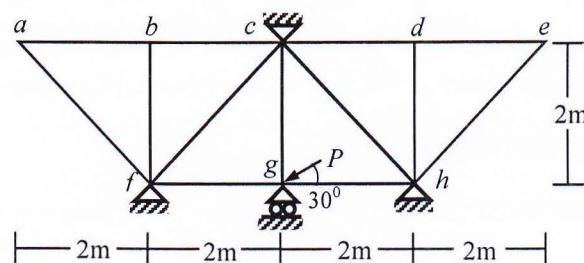

Fig 4
- Fig.4** shows a plane truss $abcdefgh$ whose support g settles 10 mm due to the applied force P . Calculate (i) Axial force in all members, (ii) Applied force P [Given: $S_x = \text{constant} = 5 \text{ kN/mm}$].